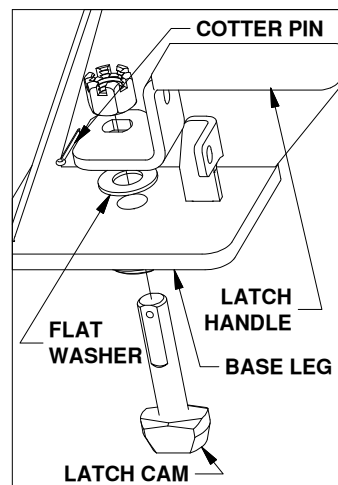

Figure C3: List of latch parts.
3. **Adjust the tension in the latch handle,** for parts list and visual guide refer to Figures C3 and C4.